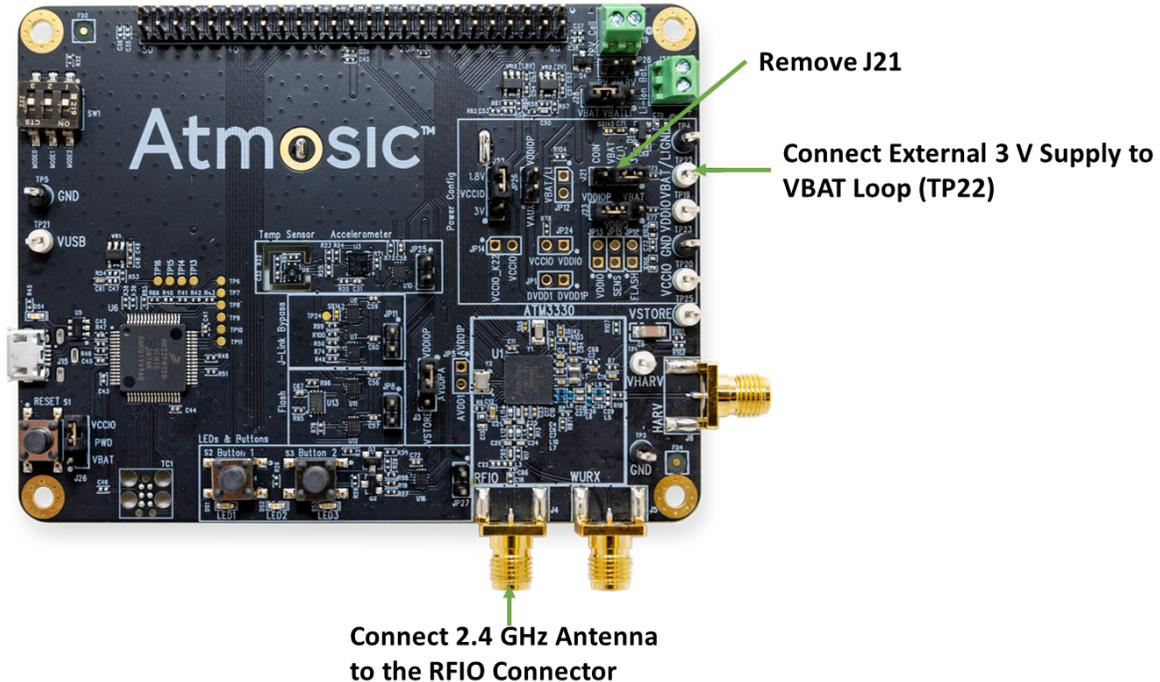

Figure 1 - ATM3330e v3.x Evaluation Board Power Consumption Setup
- Figure 1 - ATM3330e v3.x Evaluation Board Power Consumption Setup
Figure 1 shows the power consumption setup for the ATM3330e v3.x EVB.